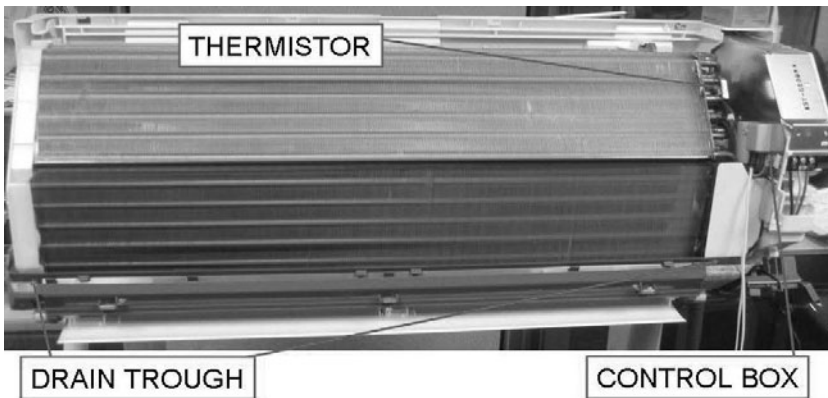

Fig 1: Mini split with cover removed
2. Remove front cover of mini-split unit in order to expose the cooling fins and the control circuit area of the unit (fig 1). The disassembly of the front cover, air filters, and possibly electrical shields will vary according to manufacturer. See the manufacturer's manual for disassembly if necessary.